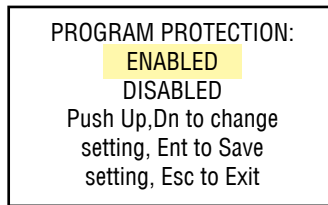
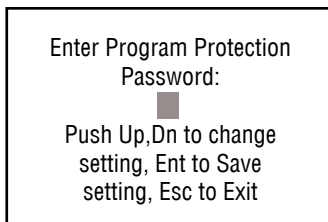

Figure 11: Program Protection Screen
Figure 12: Program Protection Password Screen
If the PP password is set to any value more than Zero, the firmware will prompt with “**Enter Program Protection Password**” (see Figure 12).
In order to get access to "**Change Program Protection (PP) Password**" menu, Program Protection must be disabled. If PP password is set to Zero (Disabled), entering PP Password is not required and PP can be disabled from "**Program Protection**" menu (see **Figure 11**). If PP Password is set to any value more than Zero, the firmware will prompt with "**Enter Program Protection Password**" (see **Figure 12**). The user must enter a program protection code (up to 3 digits). If the PP password is lost or forgotten, contact the factory or your distributor.